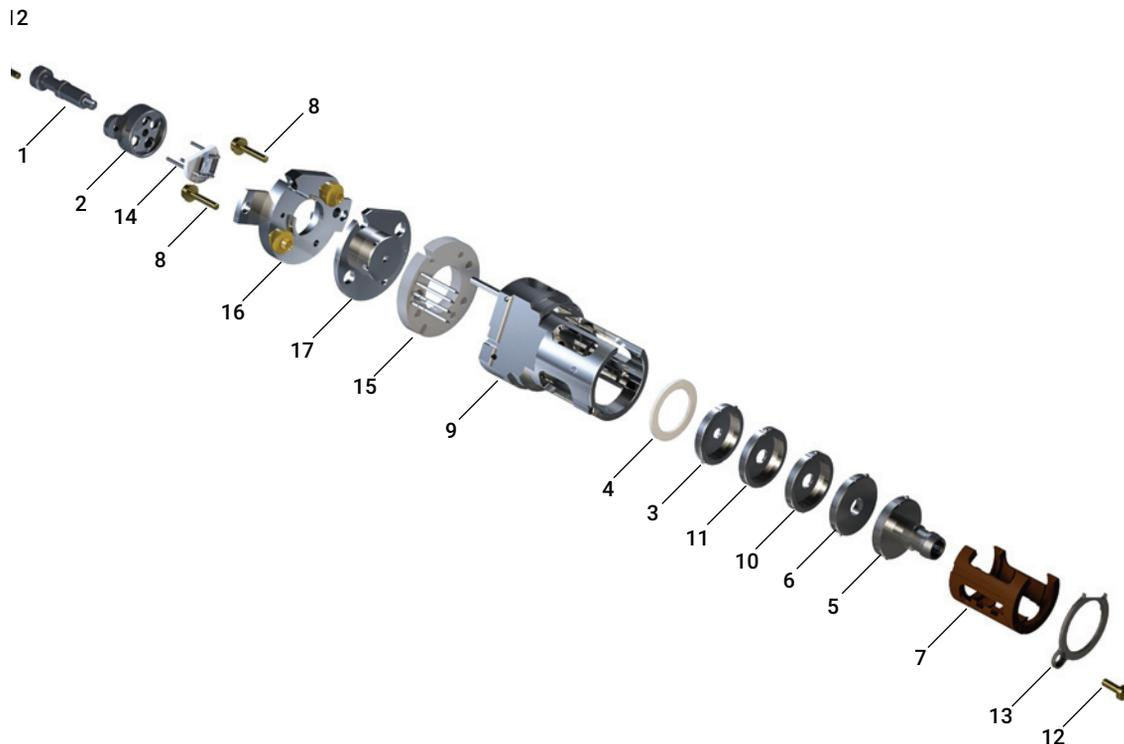

Figure 51. Exploded parts view of the EI HES
Refer to the exploded parts view and the EI HES parts list while using this procedure. (See **Figure 51** on page 170 and **Table 15** on page 170.)
**Table 15** Parts list for EI HES (Figure 51)
**Table 15 Parts list for EI HES (Figure 51) (continued)**